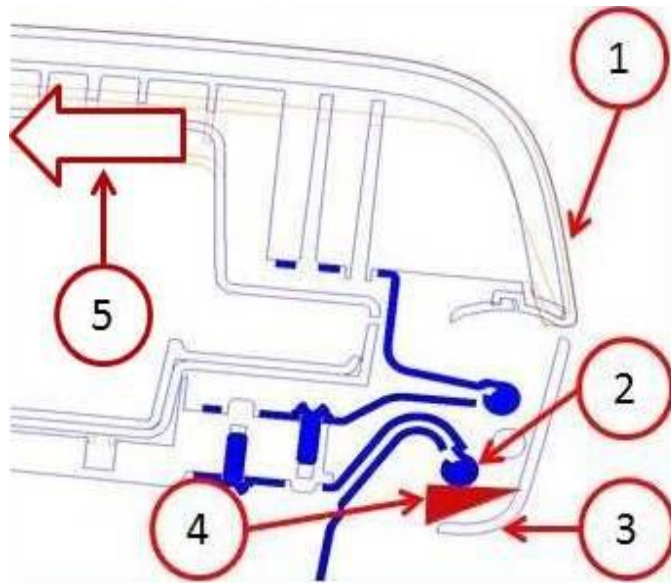

Fig. 6 Bumper Installation
11. At the center of the console wall on the lower lid (as noted in the previous step), insert the bumper where the red triangle is shown. It will take some effort to push the bumper in flush with the edge of the lower lid as shown in (Fig. 6) and (Fig. 7).